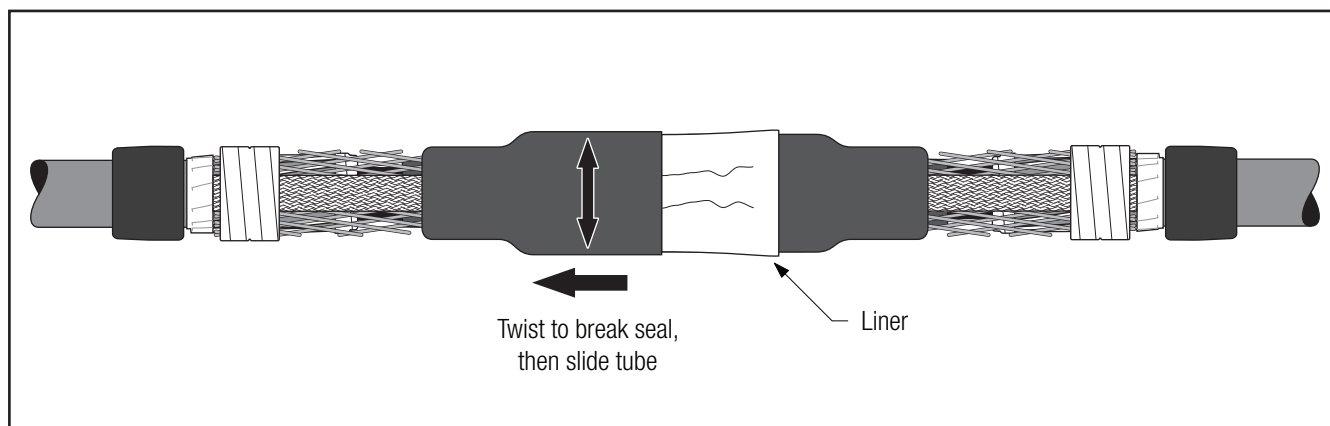

Figure 28
- 7.2 Install the re-jacketing tube by twisting the tube (not the liner) from side to side to start the movement. Then slide and unroll the tube over the constant force springs and rubber mastic. (*Figure 28*). Repeat on other side.